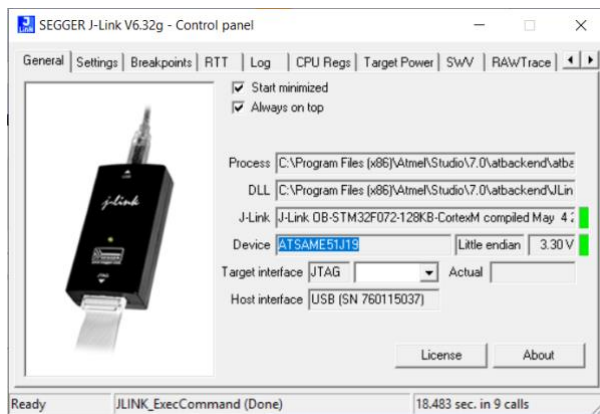
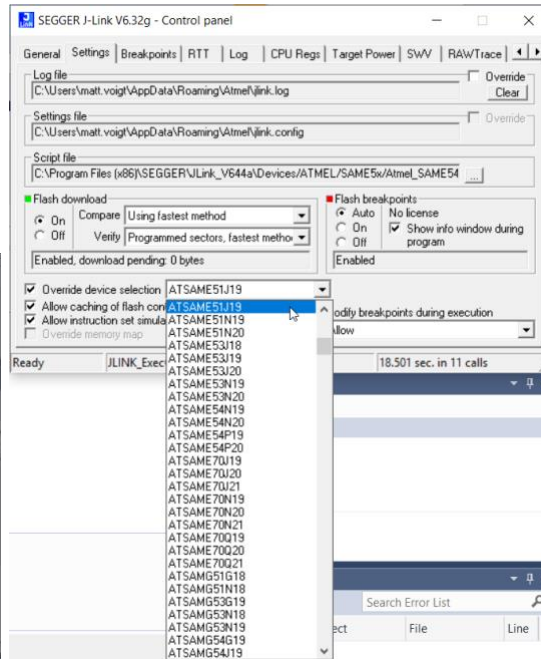
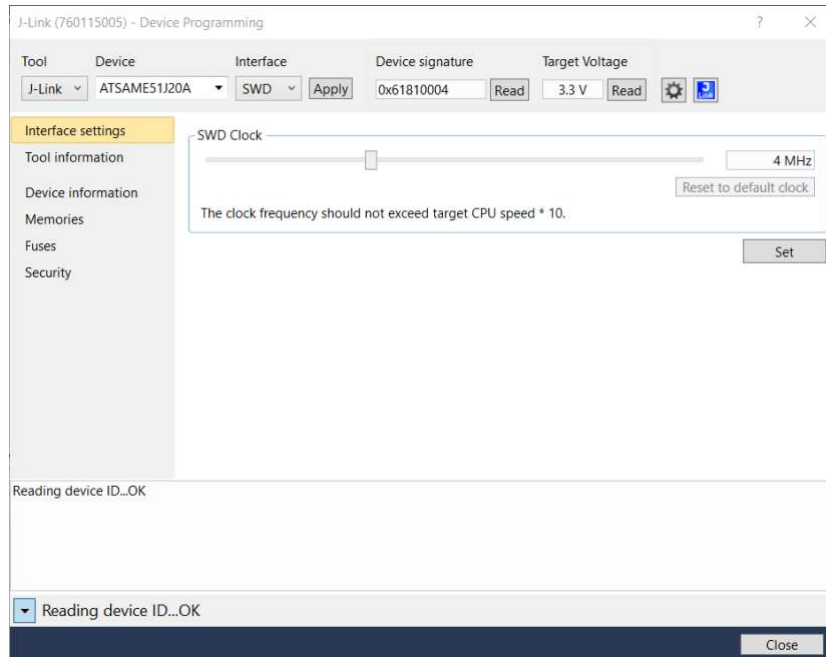

Figure 14
Figure 15
Figure 16
- Program the firmware:** Click the “Tools” dropdown menu and select “Device Programming”. Confirm that the “Tool” is the J-Link, and the “Device” is the ATSAME51J20A as shown in *Figure 16*. Click “Apply”. Click the Blue JLink Control Utility Icon to launch the J-Link Control Panel. Confirm that the “Device” is set to ATSAME51J19* as shown in *Figure 14*. If it’s not set to this, click on the “Settings” tab, and select the correct device next to the check box “Override device selection” as shown in *Figure 15*.
Close the JLink Control Utility and Click “Read”. The “Device Signature” and “Target Voltage” will be read from the onboard MCU (U16) as shown in *Figure 16*.